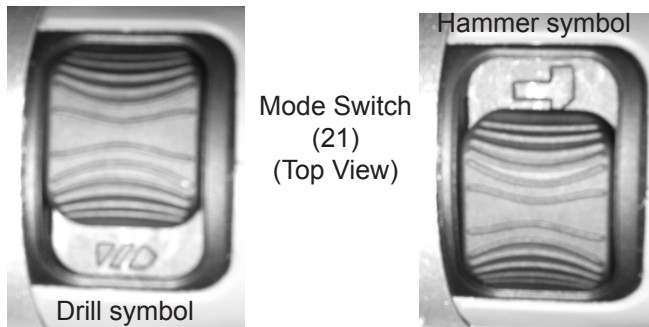

Figure 3
4. Press Trigger (55) to activate. To increase variable drilling speed, continue pressing down on Trigger (55). Decreasing pressure on Trigger will slow the drilling speed.
oscillating hammer motion), slide the Mode Switch (21) to left or right. The “drill” symbol indicates plain drilling while the “hammer” symbol indicates hammer drilling. See Figure 3.